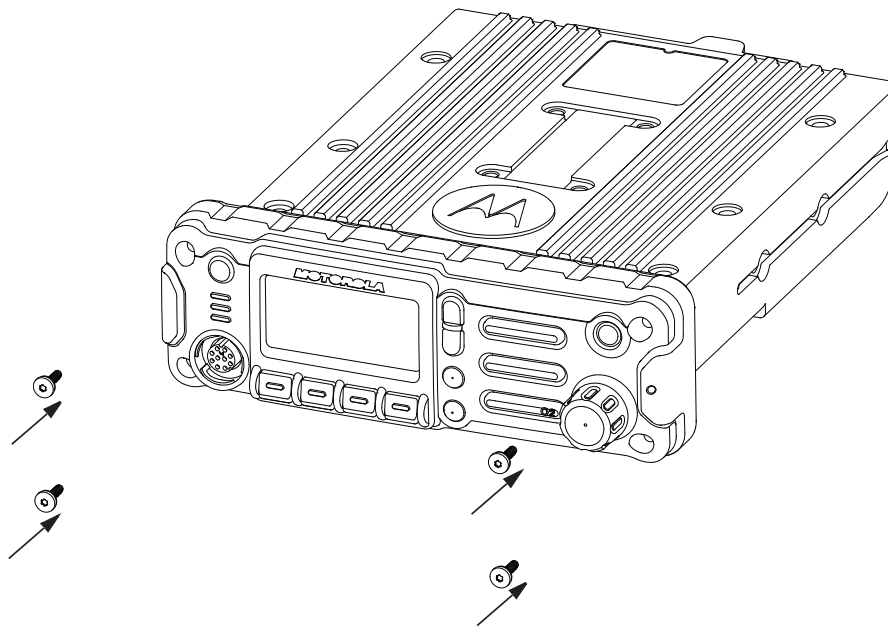

Figure 2-60. Reattaching the Control Head
- Reattach the front housing assembly to the back housing assembly as shown in Figure 2-60. Make sure that the flex is returned to its original position and that the o-ring on the back housing assembly is not pinched.
- Secure the front housing assembly back to the back housing assembly with four new screws using the Torx T-20 bit as shown in Figure 2-60. Apply 9 in. lbs. torque for each screw.